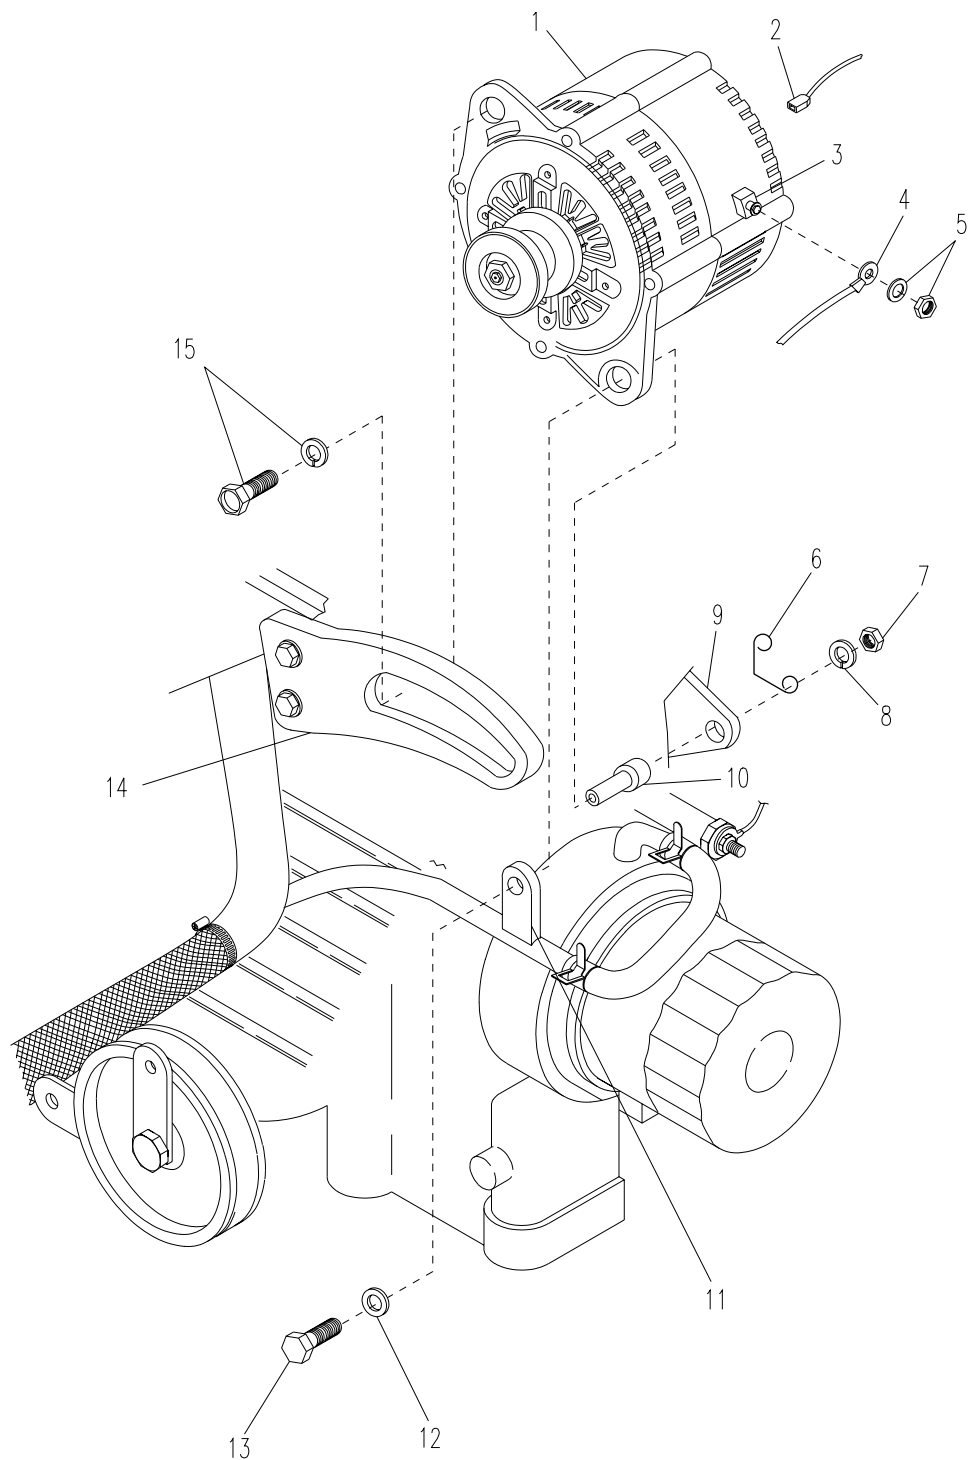

Figure 4-24. Battery Charging Alternator
- a. Refer to Figure FO-1 (SICPS/WIN-T) or F0-7 (JTACS) and tag and remove connector lead AF (2, Figure 4-24) from battery charging alternator (1).
- b. Pull back protective cover and remove nut and washer (5) securing lead ALT (4) to alternator (1). Tag and remove lead (4).
- d. Using a multimeter, connect positive lead to alternator lead ALT (3) and negative lead to ground.